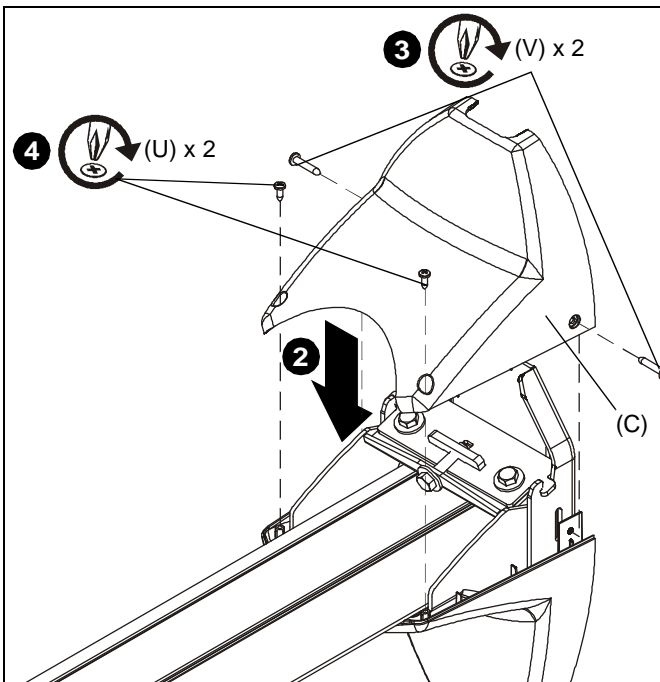

Figure 13
2. Lower top cover (C) onto wall mount assembly. (See Figure 13)
3. Install two #10 x 1" Phillips pan head tapping screws (V) through holes on sides of covers. (See Figure 13)
4. Install two #8 x 1/2" Phillips pan head tapping screws (U) into top of top cover (C). (See Figure 13)